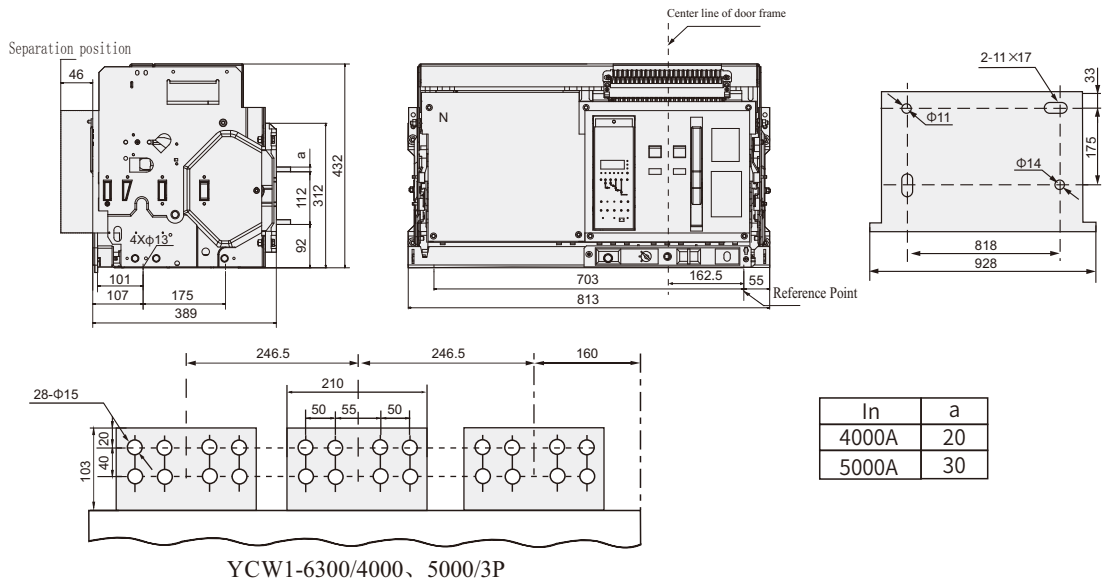

Figure 23 Installation of drawer circuit breaker and overall dimension ( $I_{nm}=4000A$  quadropole).
6.8 Figure 23 Shape of YCW1—6300 /3P drawer circuit breaker (quadropole) and installation size.